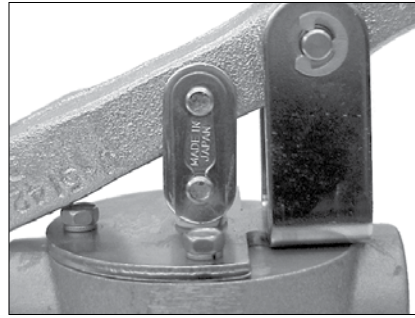

Figure 17a
3. Place the valve on a flat surface with the valve piston facing down (Figure 17a).